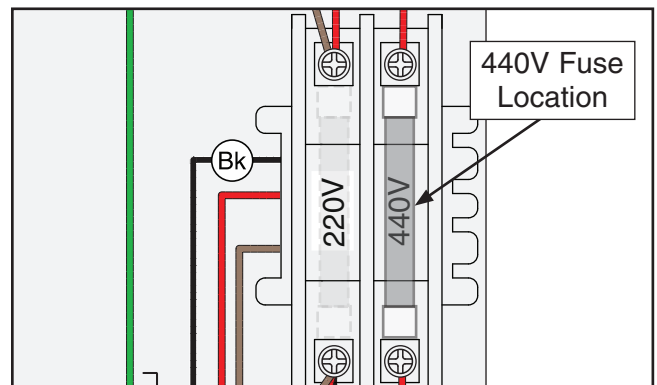

Figure 8. Fuse moved from 220V to 440V slot.
5. Remove magnetic switch cover and move fuse on fuse block from 220V slot to 440V slot, as shown in **Figure 8**. (Additionally, refer to photos on **Page 80** and wiring diagram on **Page 82** for further details).